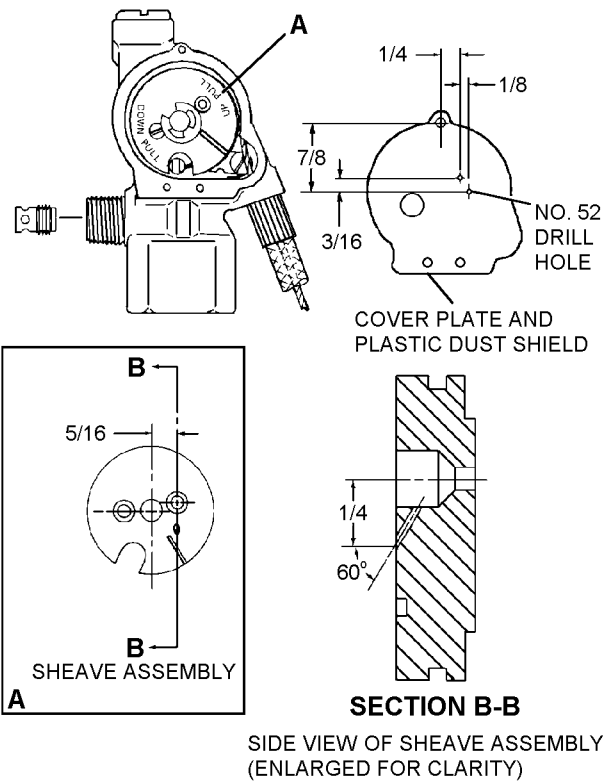

Figure 11-12. Drilling IV0303 Inflation Valve
3. Using a no. 52 drill, drill two holes in cover plate and plastic dust shield. See figure 11-12.
8. Using a no. 52 drill, drill a hole at a 60° angle in valve sheave. See figure 11-12.